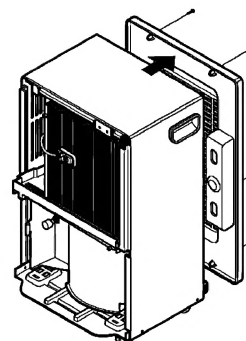

Figure 12
4. Remove the rear grille. (See Figure 12)